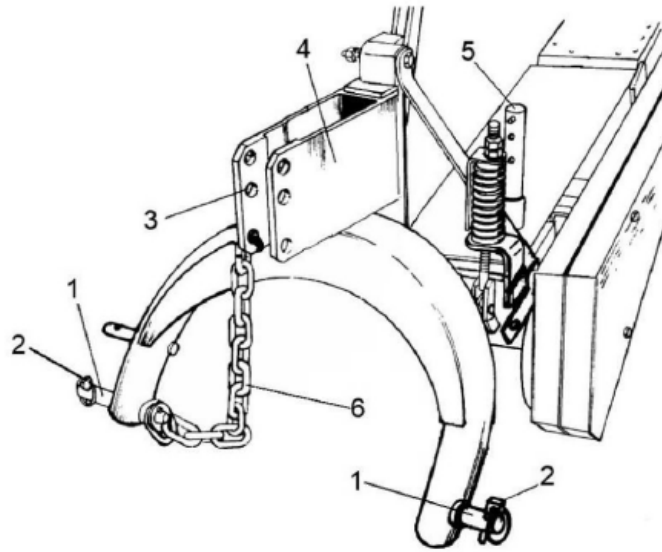

FIG. 3. MOWER LINKAGE FRAME: 1 - linkage frame lower pivot, 2 - linchpin, 3 - openings in linkage frame yoke, 4 - linkage frame yoke, 5 - support, 6 - chain.
The mower should be attached to tractor with use of 3-point linkage frame. The mower should be in transport position. Attachment points on mower linkage frame are presented in Fig. 3.
Install ball-and-socket joints of tractor lower links (first left and then right one) on linkage frame pivot (1) (Fig. 3) and secure them using linchpins (2);
- Insert joint end of upper link in-between yoke plates (4) (using upper or middle openings (3), and then connect with pin and secure with linchpin (2);
- Raise support (5) and secure with split pin;
- Install chain (6) in upper transport hitch or its bracket (see section. 6.6. Mower adjustment rules).